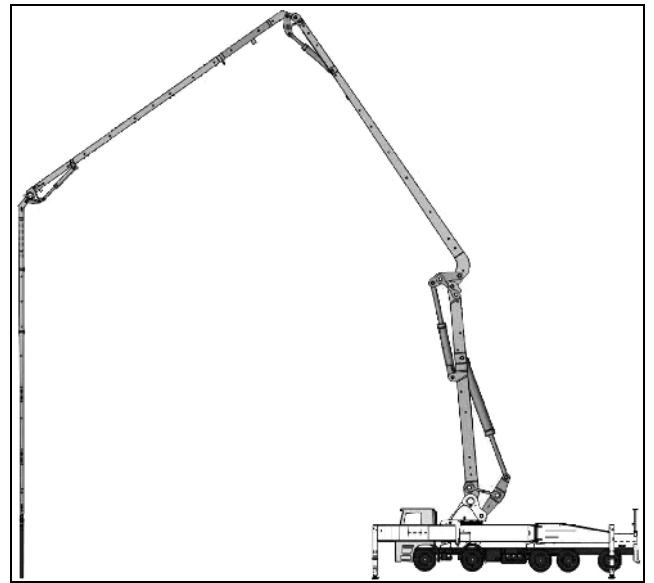

Fig.: 5
- Position the placing boom as shown in (Fig.: 5).